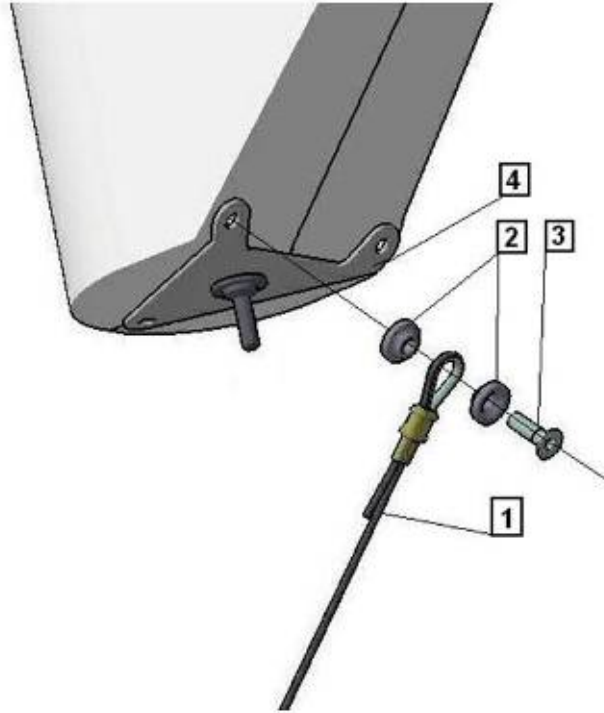

Fig. 55-40-4
5	Turn the rudder left up to the stop and set the rudder left cable (1) (Fig. 55-40-4).